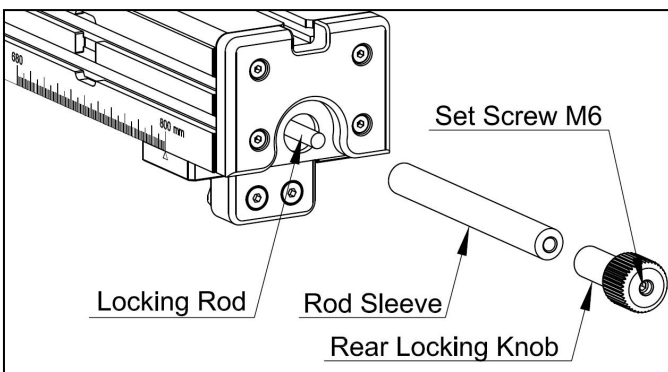
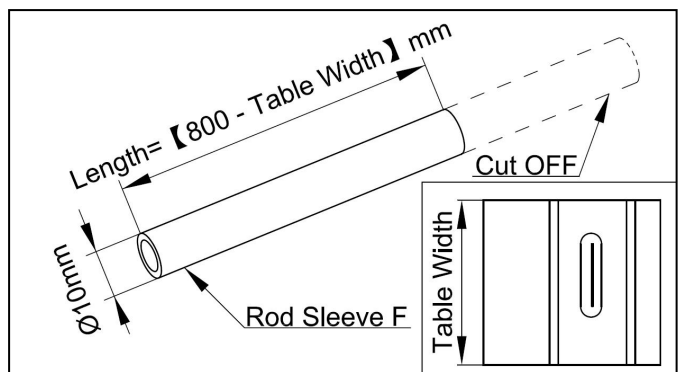

Fig. 6-17
Fig. 6-18
- ① As shown in Fig. 6-17, loosen the M6 set screw and unscrew the Rear Locking Knob.
- ② Slip the Rod Sleeve onto the Locking Rod and then screw the Rear Locking Knob back on. You do not need to tighten the M6 set screw at this point to allow for adjustments later.
c. If the table width is between 690mm and 795mm, you will need to modify the rod sleeve before installation. The installation procedure remains the same as in the previous step. Afterward, proceed with step 3. The rod sleeve must be shortened to meet the installation requirements for tables within the width range of 690mm to 795mm. The modified dimensions for the rod sleeve can be found in Fig. 6-18. **The length of the rod sleeve should be equal to 800mm minus the width of the table.**